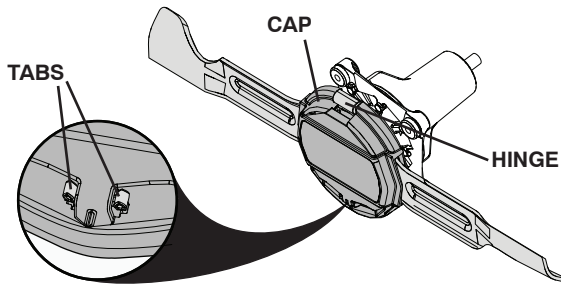

Fig. 30
BLADE REPLACEMENT (See Figs. 30 - 35)
- Squeeze tabs inward to release cap. Remove by lifting cap from hinge and set aside. (See Fig. 30.)